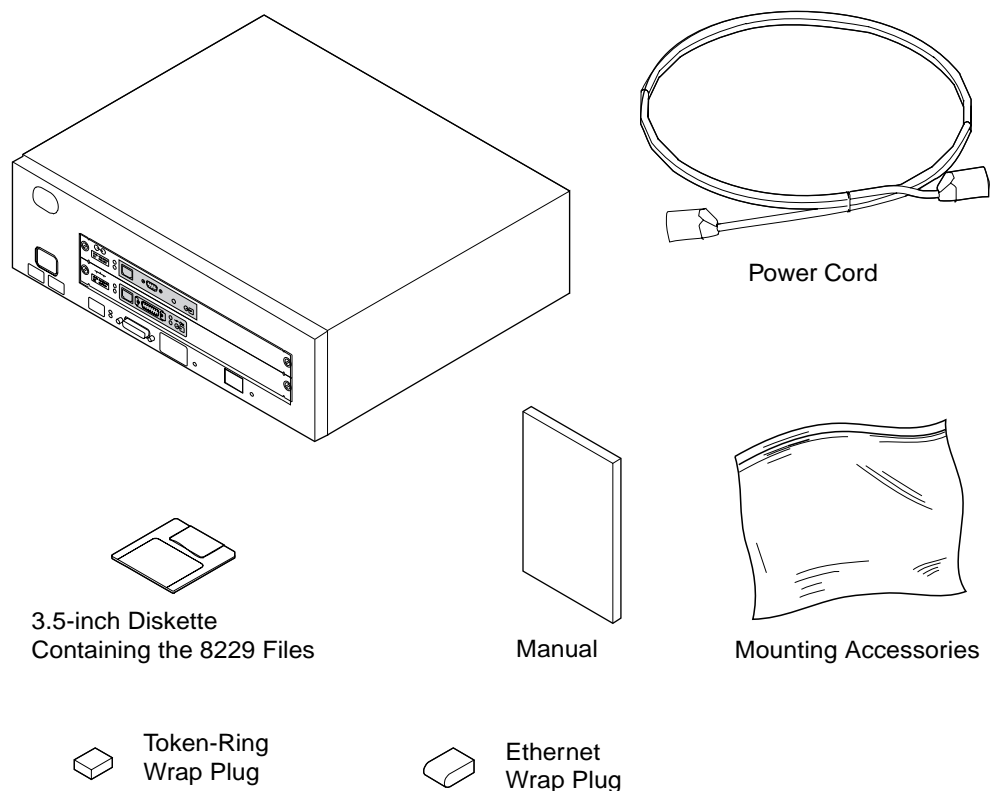

Figure 2-7. Contents of the Shipping Carton for the Ethernet Bridge.
- c. ____ Make sure that you have everything (see Figure 2-7), then go to step 2 on page 2-9.